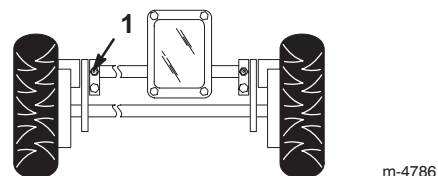

Figure 26
- Wipe the grease fittings with a clean rag (Fig. 26).